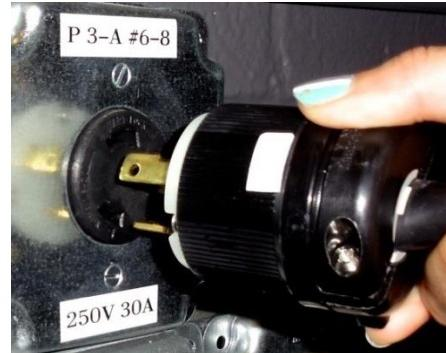

Figure 55: AC Power
- Connect AC power to the projector (Figure 55).